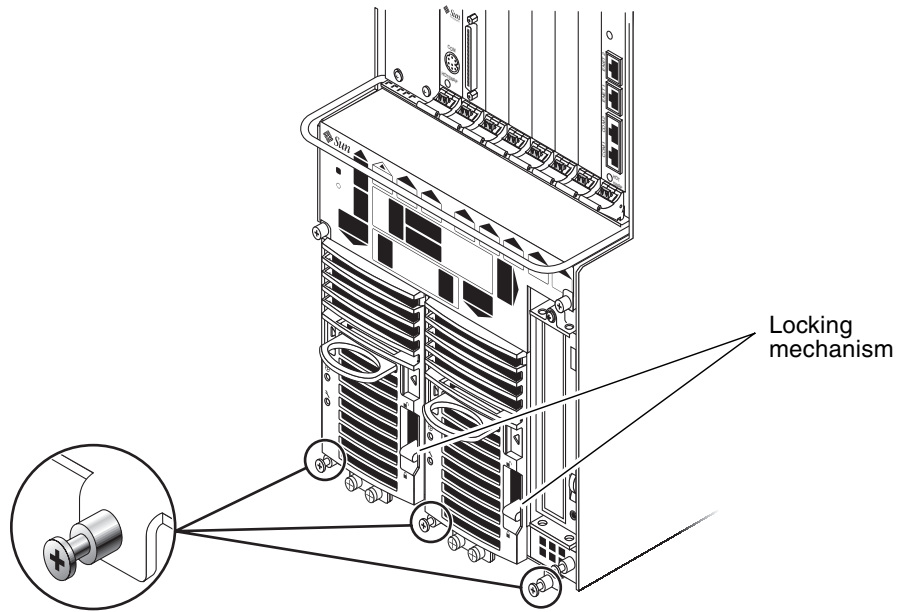
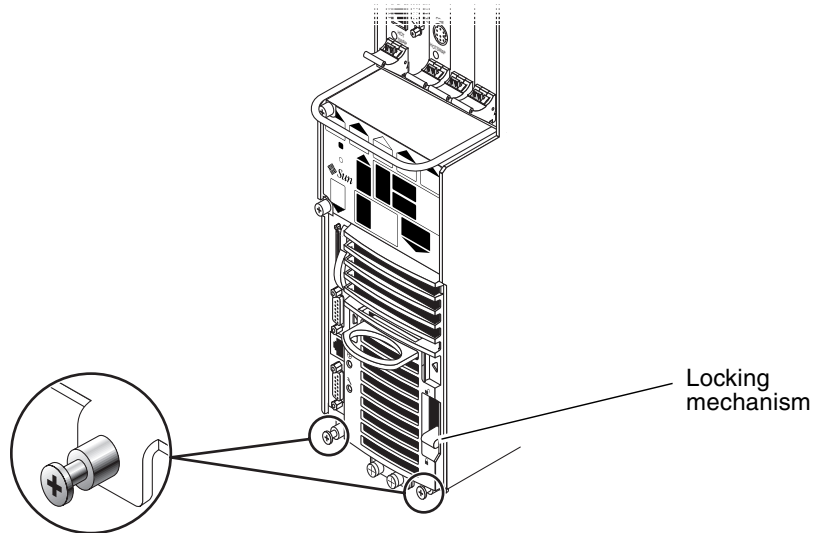

FIGURE 3-5 Loosening the Screws at the Bottom of a Netra CT 810 Server
FIGURE 3-6 Loosening the Screws at the Bottom of a Netra CT 410 Server
- If you are removing a Netra CT 810 server, loosen the *three* black captive screws at the bottom of the server (FIGURE 3-5).
- If you are removing a Netra CT 410 server, loosen the *two* black captive screws at the bottom of the server (FIGURE 3-6).
FIGURE 3-5 shows the location of the two power supply unit locking mechanisms on the Netra CT 810 server, and FIGURE 3-6 shows the location of the single power supply unit locking mechanism on the Netra CT 410 server. Make sure you unlock *both* power supply units if you are replacing an Netra CT 810 server, or you will not be able to remove the server from the chassis.